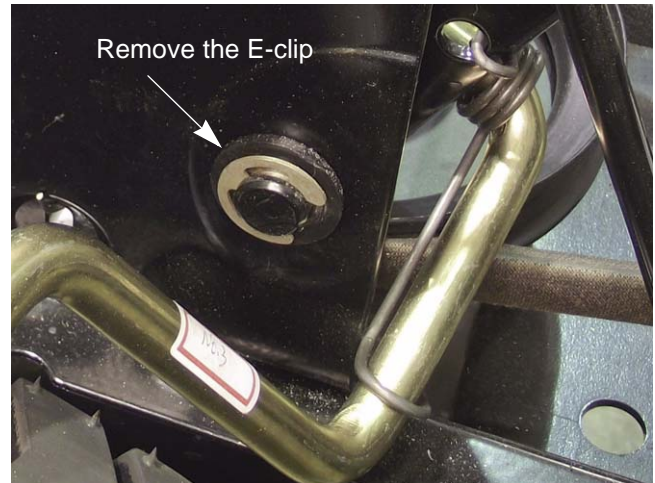

Figure 8.36
3. Remove the E-clips that retain the lift shaft bushings. (Both sides of frame.) See Figure 8.36.